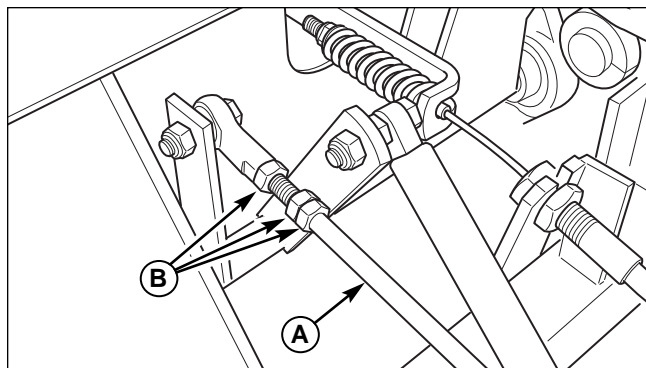

Figure 32. Neutral Adjustment (RH side shown)
2. There are three nuts (B, Figure 32) on the linkage rod. The first two are to be used together to turn the rod and the third (towards the front of the machine) is used to lock the rod in place. Loosen the jam nut that locks against the ball joint (B, Figure 32) and turn the linkage rod (A) to adjust. If the machine creeps forward, turn the rod CLOCKWISE (while standing at the rear of the machine, facing forward), if the machine creeps backward, turn the rod COUNTER-CLOCKWISE.
3. Lock the jam nut (B) against the ball joint when neutral is achieved.